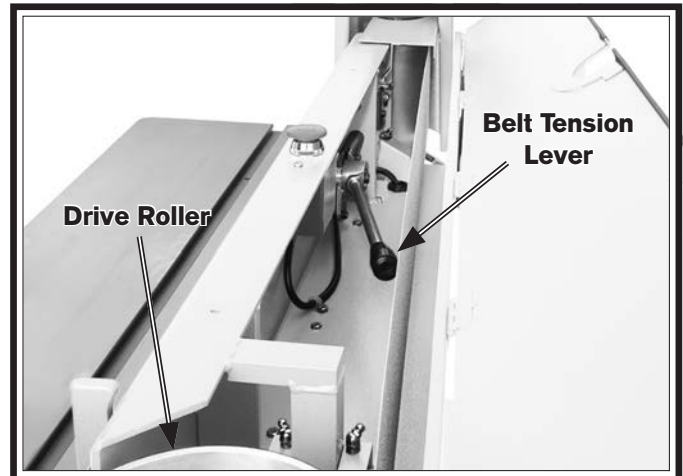

Figure 39. Sanding belt installed and tensioned.
8. Move belt tension lever down, toward drive roller, to tension sanding belt (see **Figure 39**).